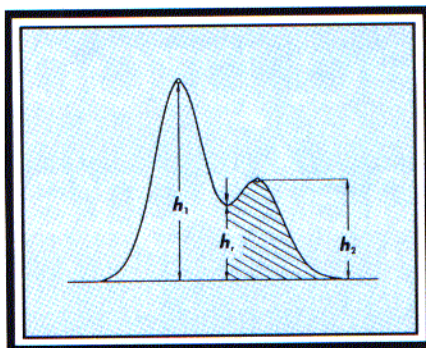

FIGURE 1: Measurement of peak valley/height ratio. (Reprinted with permission from reference 3.)
A more useful criterion for column performance, however, is resolution, because the separation of peaks of interest is the purpose of the assay. If possible, focus on a pair of bands for which the separation is most likely to degrade first. You can use a variety of methods to measure resolution (3), although the valley/height ratio shown in Figure 1 is one of the most convenient methods. Measure the height of the minor component of a peak pair (h_2 in Figure 1) and the height of the valley between the two peaks (h in Figure 1). As shown in Table I, the valley/height ratio can be used to determine error in measuring the area. Once you determine the level of error that is acceptable in your assay, you can determine the maximum valley/height ratio that allows you to stay within the desired lim-